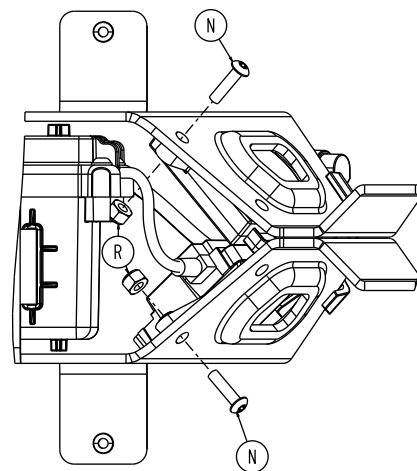

Figure 82 – Remove the wireless module screw and nut
25. Using a T25 Torx driver and a 3/8" combination wrench, remove the button head cap screw (N) and Fiberlock nut (R) that secure the wireless module, if equipped, and the NFMIC module to the cot, if equipped (Figure 82). Save the screw and nut.